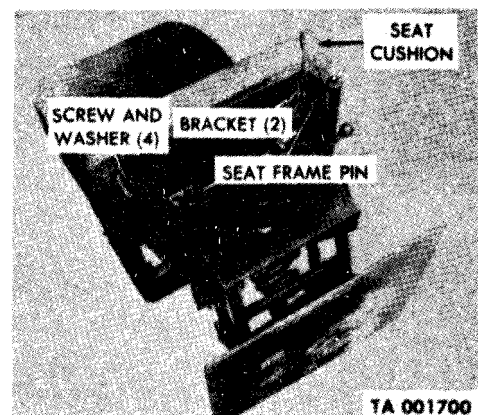

Figure 2-219.4. Driver's seat cushion removal and installation.
*a. Removal (fig. 2-219.4).* Remove four screws and washers securing cushion mounting brackets to underside of seat cushion. Remove seat cushion from seat frame.
*b. Installation (fig. 2-219.4).* Position cushion on seat frame. Position cushion mounting brackets on seat frame pins and secure brackets to seat cushion with four screws and washers.